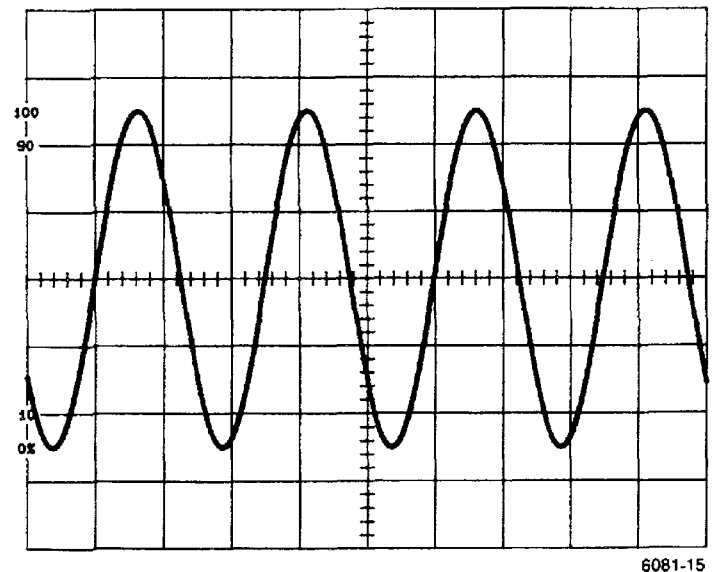

Figure 5-2. 2 ns Timing.
- c. ADJUST—2 ns TIMING (C807, C814) for 1 cycle for each 2.5 divisions over the center 8 divisions. See Figure 5-2. Use the vertical transition of the sine wave instead of the peaks for better accuracy.